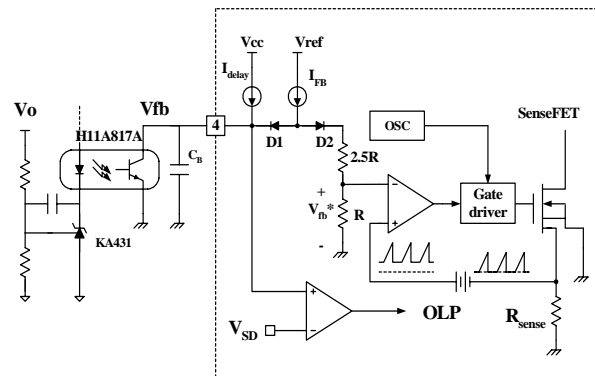

Figure 5. Pulse width modulation (PWM) circuit
2. Feedback Control : FSDM0565RB employs current mode control, as shown in Figure 5. An opto-coupler (such as the H11A817A) and shunt regulator (such as the KA431) are typically used to implement the feedback network. Comparing the feedback voltage with the voltage across the R_{sense} resistor plus an offset voltage makes it possible to control the switching duty cycle. When the reference pin voltage of the KA431 exceeds the internal reference voltage of 2.5V, the H11A817A LED current increases, thus pulling down the feedback voltage and reducing the duty cycle. This event typically happens when the input voltage is increased or the output load is decreased.
2.1 Pulse-by-pulse current limit: Because current mode control is employed, the peak current through the Sense FET is limited by the inverting input of PWM comparator (V_{fb}*) as shown in Figure 5. Assuming that the 0.9mA current source flows only through the internal resistor (2.5R + R = 2.8 kΩ), the cathode voltage of diode D2 is about 2.5V. Since D1 is blocked when the feedback voltage (V_{fb}) exceeds 2.5V, the maximum voltage of the cathode of D2 is clamped at this voltage, thus clamping V_{fb}*. Therefore, the peak value of the current through the Sense FET is limited.